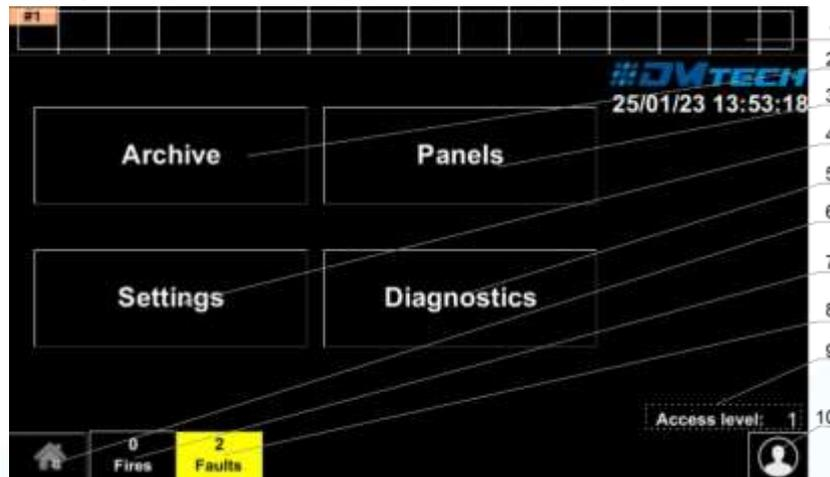

Fig. 2
5.2.1. Indication – in Fig.2 are shown the indications of the FP900A-6 panel. It consists of eight fields with light indication and three buttons (two of which with indication). The following table describes their functionality:
5.2.2. Initial screen of the panel – in Fig. 2 is shown the homescreen with the characteristic information areas and function buttons.